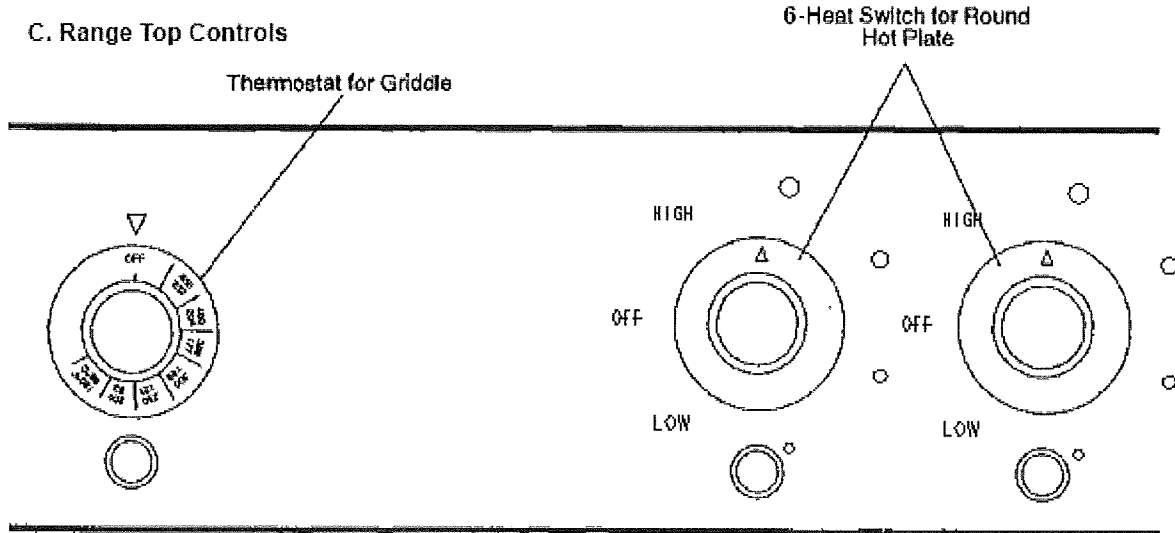

Figure 3-4
1. Griddle is controlled by a Temperature Thermostat Control (see Figure 3-4) adjustable from 150°F to 450°F (65°C to 232°C). The griddle will preheat to 400°F (204°C) in 12 minutes. Adjacent green light remains on while heating elements are energized and griddle is coming up to set temperature.